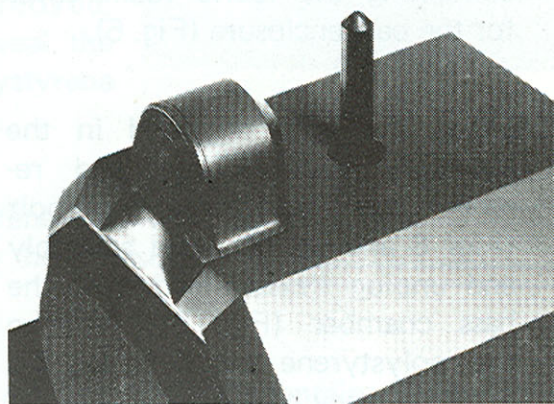

Fig. 11
- (B) Fit the head retaining peg by screwing into the threaded socket on the top surface of the mid-frequency head enclosure (Fig. 11).